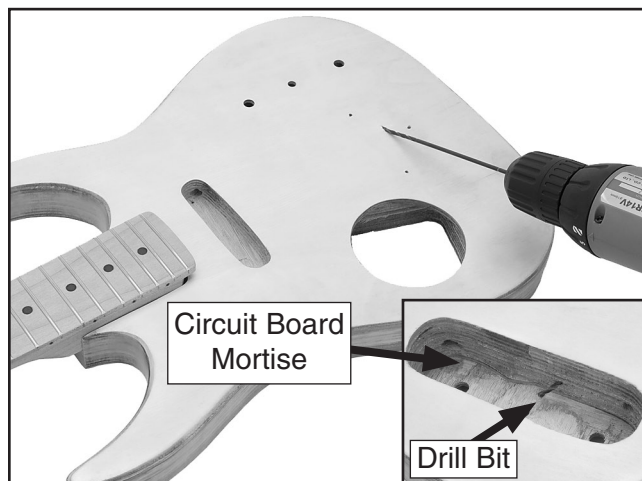

Figure 7. Drilling bridge ground wire shaft into circuit board mortise.
11. Using a $\frac{7}{64}$ " aircraft extension bit, drill a shaft at a shallow angle toward the circuit board mortise as shown in **Figure 7**.
4. Insert the grounding wire through the hole in the side of the circuit board mortise (see **Figure 7**).